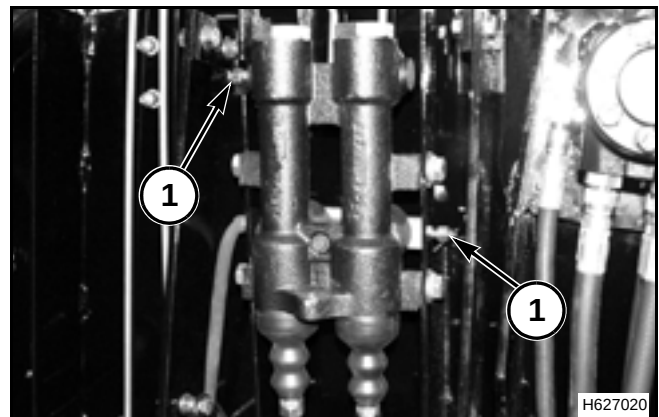

FIG. 87
FIG. 87: Open the bleed screw (1) on the left-hand side of the master cylinder while pushing both pedals down. Close the screw on the up stroke. Repeat this procedure for both brake pedals until a stream of brake fluid is released from the brake bleed screw that does not contain any air bubbles.